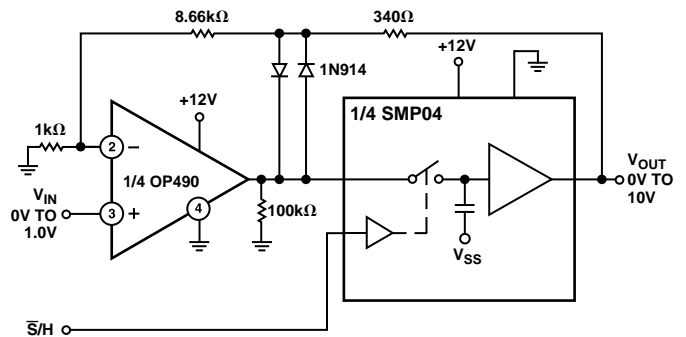

Figure 22. Gain of 10 Sample-and-Hold Amplifier
**GAIN OF 10 SAMPLE-AND-HOLD (Figure 22)**